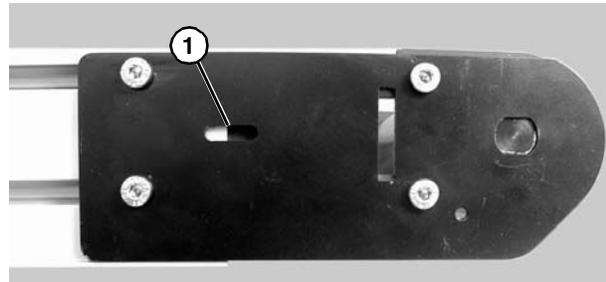

Figure 40
- Extend head plate assembly until proper tension in the belt is achieved. If proper tensioning can not be obtained before the belt life indicator is all black (**Figure 40, item 1**) the belt must be replaced.